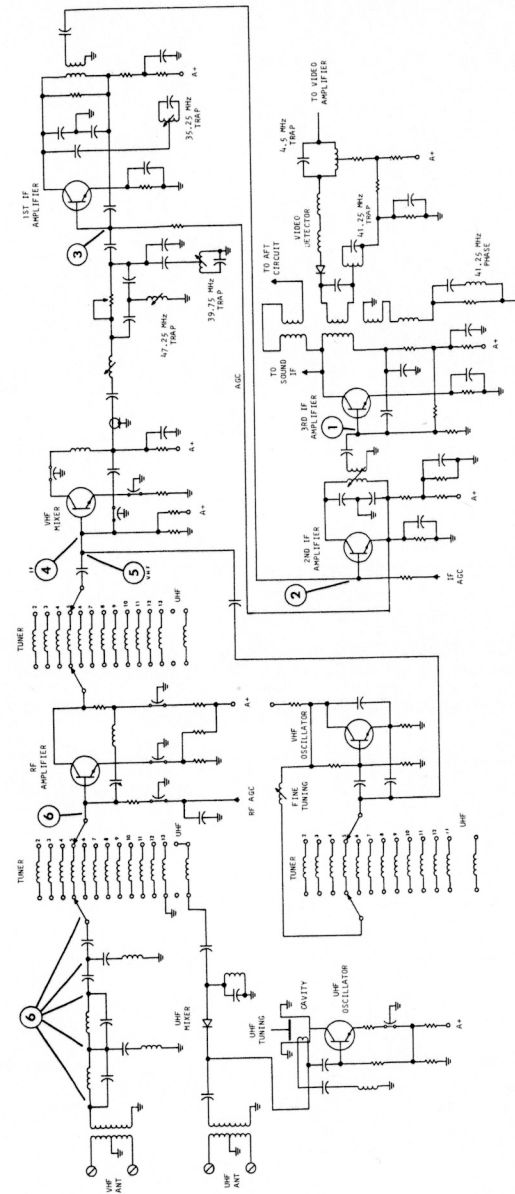

Figure 46. RF and IF Circuit Schematic Diagram
F. NO VIDEO—NO SOUND (See Figure 46)
Condensed Troubleshooting Procedure—NO VIDEO—NO SOUND (See Figure 46)